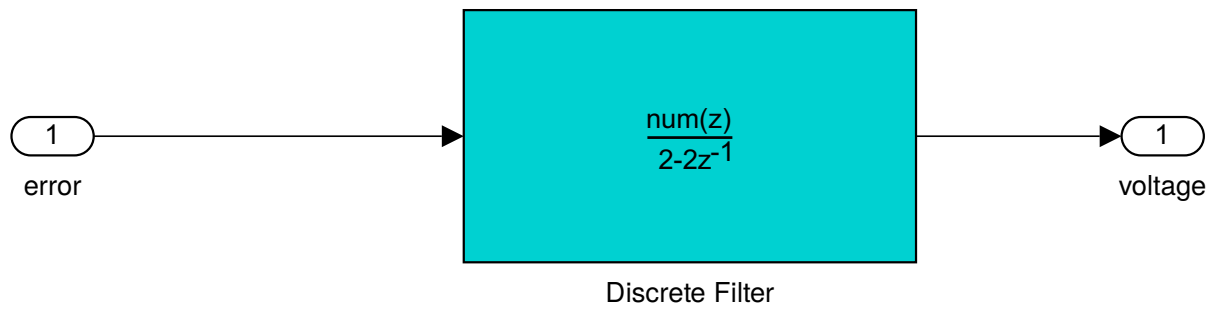

Figure 1.16: Change the PID controller subsystem to make it discrete. Take the sample-time from the workspace variable `Tsample` initialized to 0.1 seconds.
4. Now change the PID controller subsystem of one of the two controllers to that shown in Fig. 1.16. You will need the block Discrete/Discrete-Filter from the SLB. Double-click the block and specify the discrete transfer-function. Enter the numerator and denominator of  $G(z)$  from (1.44) in the expected format. In the field "Sample Time" enter `Tsample`.